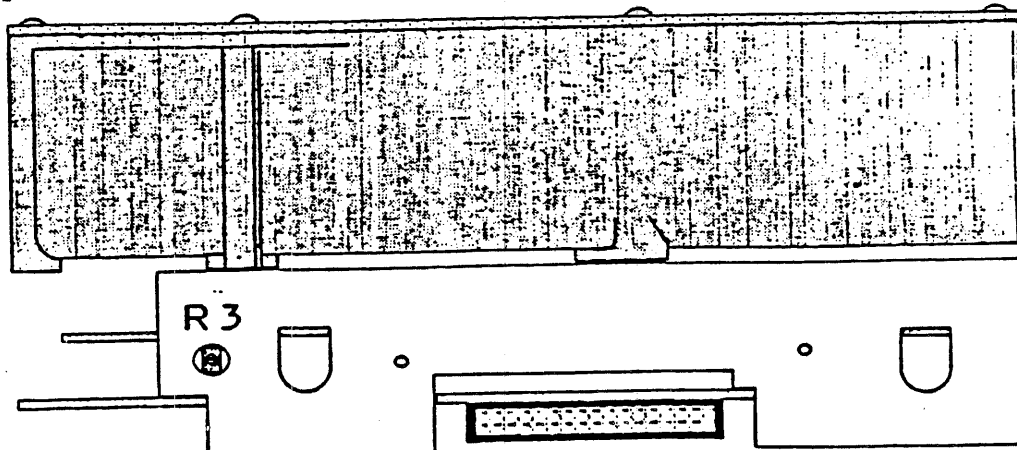

Figure 3 - HDA Side View
4. To check the speed of the HDA, set up the frequency counter to display milliseconds, and connect the input of the frequency counter to TP9 on the analog card. The frequency counter should read 16.67 milliseconds +/- .5%. If it does not, adjust R3, on the side of the HDA (shown in Figure 3) as close to 16.67 milliseconds as possible.